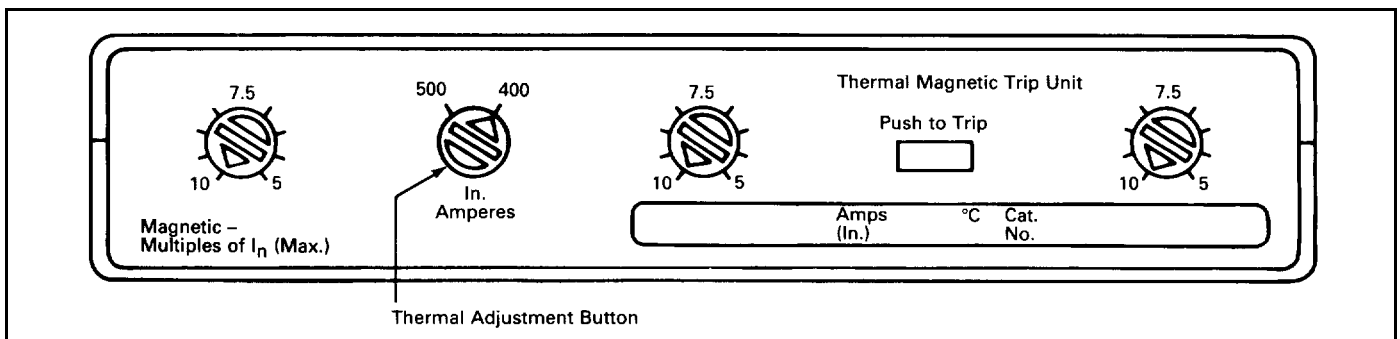

Fig. 2-4 Trip Unit Thermal Adjustment Button
In some trip unit types, the thermal rating (I_n) of the trip unit can be adjusted by a single button (see Fig. 2-4) within the ranges indicated in Table 1-2.
- 2-13. Adjust thermal setting as required (see Fig. 2-4) by rotating the thermal adjustment button until the arrow on the button points to the desired setting.